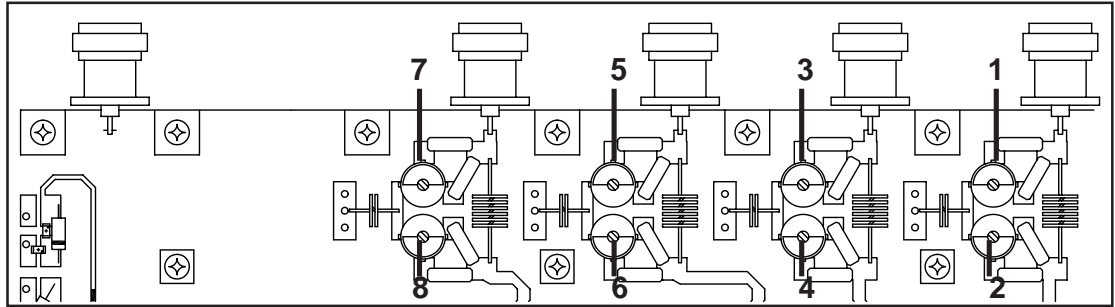

Figure 9.1
- 6) Adjust the variable capacitors (1) and (2) (Figure 9.1) related to the first amplifier, to maximize the forward power measured in the coupler